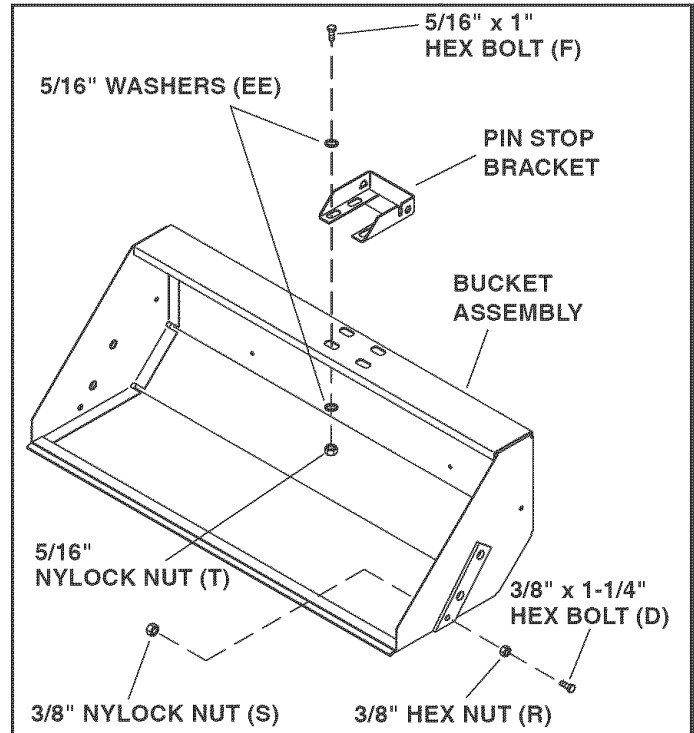

FIGURE 1
STEP 1: INSTALL TWO BOLTS (SEE FIGURE 1)
- Assemble two 3/8" x 1-1/4" hex bolts (D) and 3/8" hex nuts (R), threading the nut all the way onto the bolt until it is tight against the head of the bolt.
- Install a nut/bolt assembly into the bucket assembly and fasten using a 3/8" nylock nut (S). **Tighten.** Repeat for the other side.
STEP 2: INSTALL PIN STOP BRACKET (SEE FIGURE 1)
- Install the pin stop bracket to the top of the bucket assembly using four 5/16" x 1" hex bolts (F), eight 5/16" washers (EE) and four 5/16" nylock nuts (T). Leave the bolts loose enough that the position of the pin stop bracket can be adjusted later.